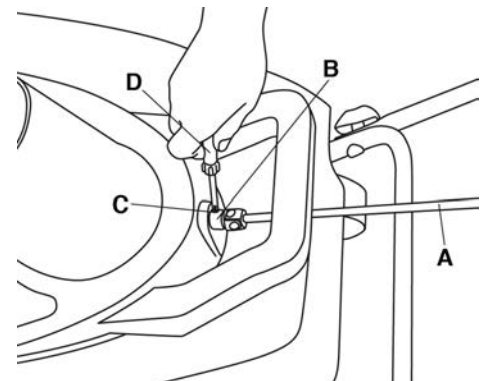

FIGURE 15
14. Insert the chute crank (A) Fig.15 into the hole on the discharge chute base (B). Retighten the screw (C) with a screwdriver (D).